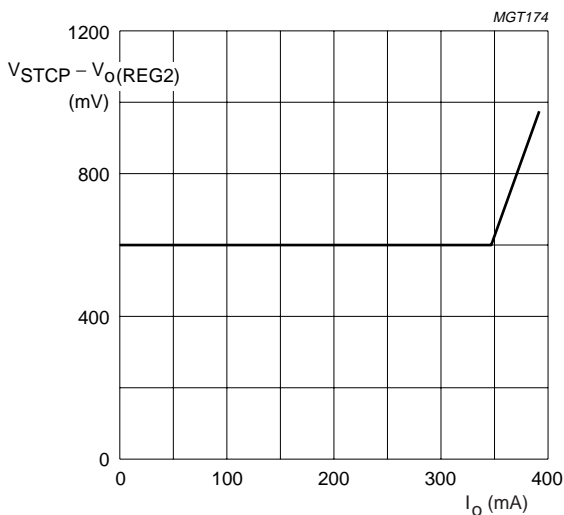

Fig.6 Dropout voltage of V_{STCP} as a function of the output current of regulator 2.
4. The dropout voltage of regulator 2 is the voltage difference between V_{STCP} and $V_{o(REG2)}$ and depends on the load current (see Fig.6).